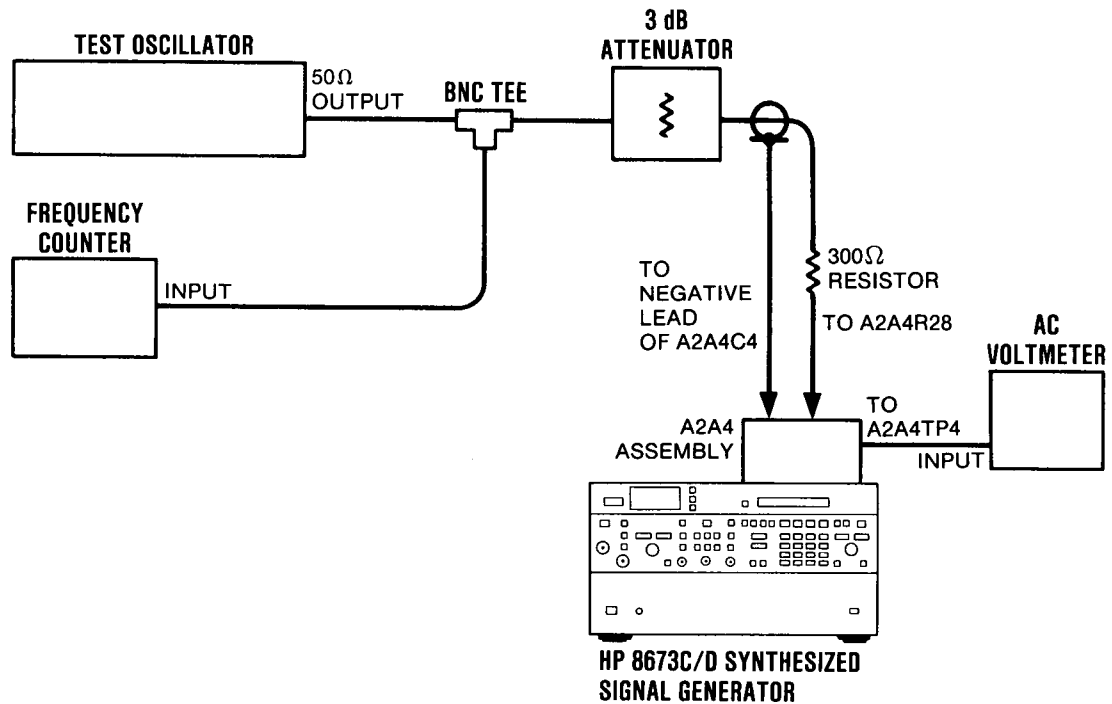

Figure 5-9. LFS Loop Notch Filter Adjustment Test Setup
5. Connect the equipment as shown in Figure 5-9. The leads from the 3 dB attenuator should be as short as possible. Connect the ground wire to the negative side of A2A4C4.